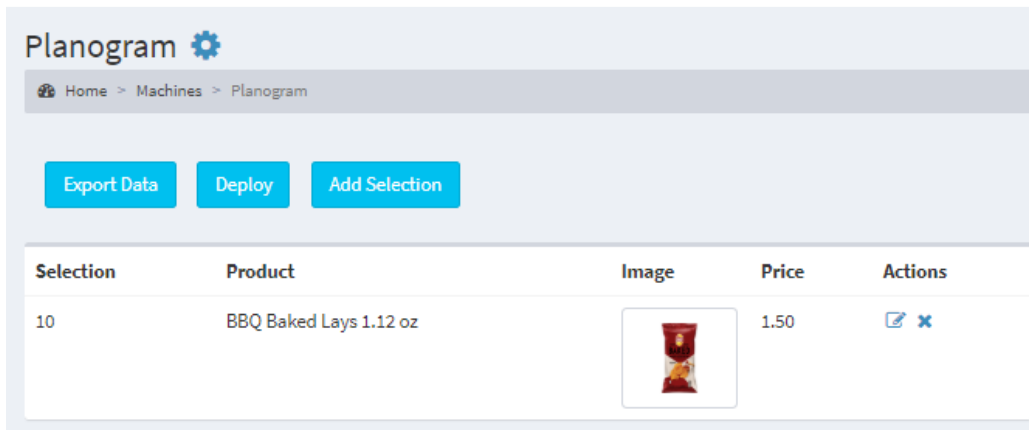

Figure 41
- Click the Save button to save your selection. You should now see your first selection in the Machine (*figure 41*). Continue this process until all remaining selections have been entered into the machine.